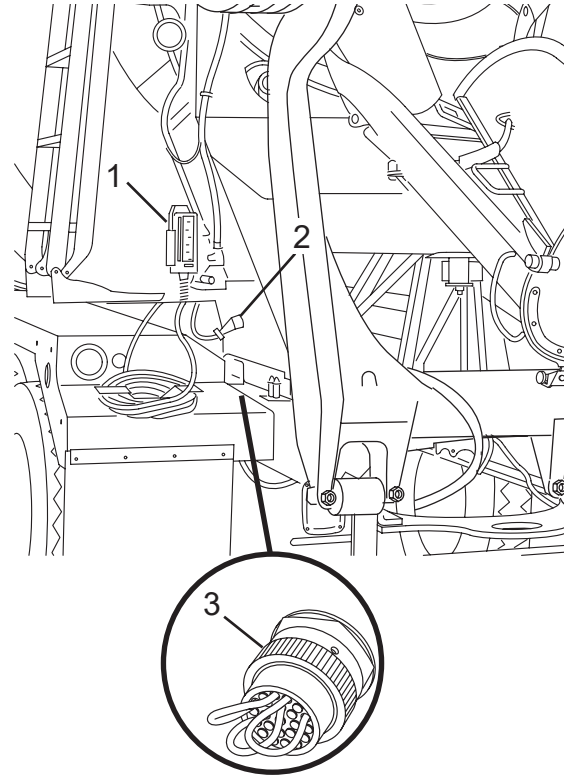

Figure 60
If the rear pendant (Figure 60, Item 1) is lost, or becomes damaged or faulty, a jumper plug (Figure 60, Item 3) must be installed in the rear pendant socket to allow operation of control functions from the cab control box.
2. Disconnect the rear pendant harness connector (Figure 60, Item 2) from the rear pedestal.
3. Install a jumper plug (Figure 60, Item 3) into the rear pendant harness connector. Purchase the jumper plug from www.streetsmartparts.com or by calling McNeilus Parts at 888-686-7278.